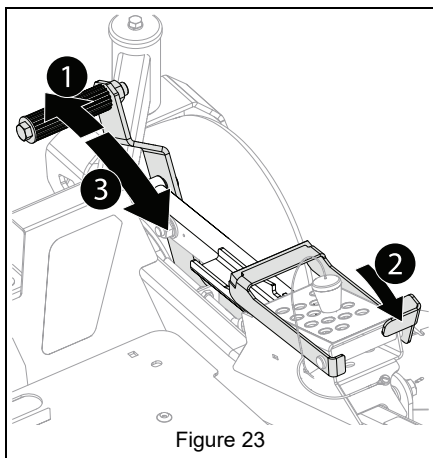

Figure 23
3. Push deck lift pedal slightly forward, release transport lock and slowly release pedal until deck rests. See Figure 23.